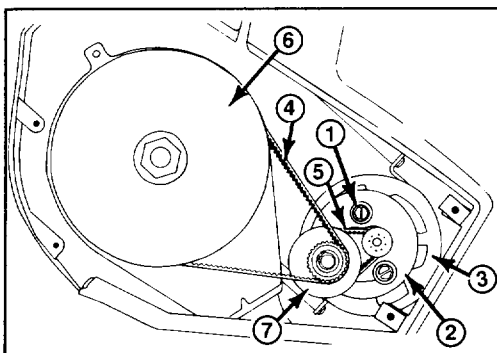

Figure 13
1. Remove the (5) screws securing the left side plate to the snowthrower frame. Remove side plate and skid.
2. Remove large belt by slowly walking (sliding) it off small pulley (Fig. 13).
4. Belt tension will decrease allowing the motor and pulley assembly to rotate clockwise, simplifying belt removal. Slip belt off large pulley (Fig. 13).
4. Belt tension will decrease allowing motor and pulley assembly to rotate clockwise, simplifying belt removal. Slip belt off large pulley (Fig. 13).
5. Loosen (do not remove) the (2) $5/16"$ socket head screws on the motor mounting plate (Fig. 13). This allows the small pulley to move simplifying small belt replacement.